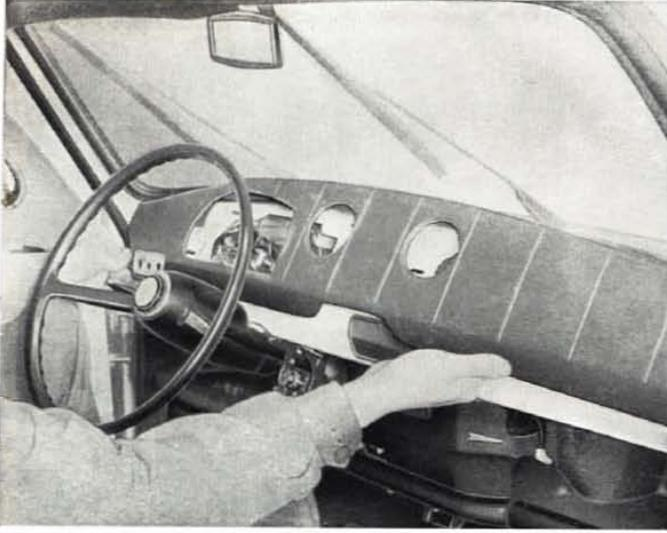

Fig. 410 - Removing instrument panel lining.
- withdraw instrument panel lining overcoming the force of clips (fig. 410).